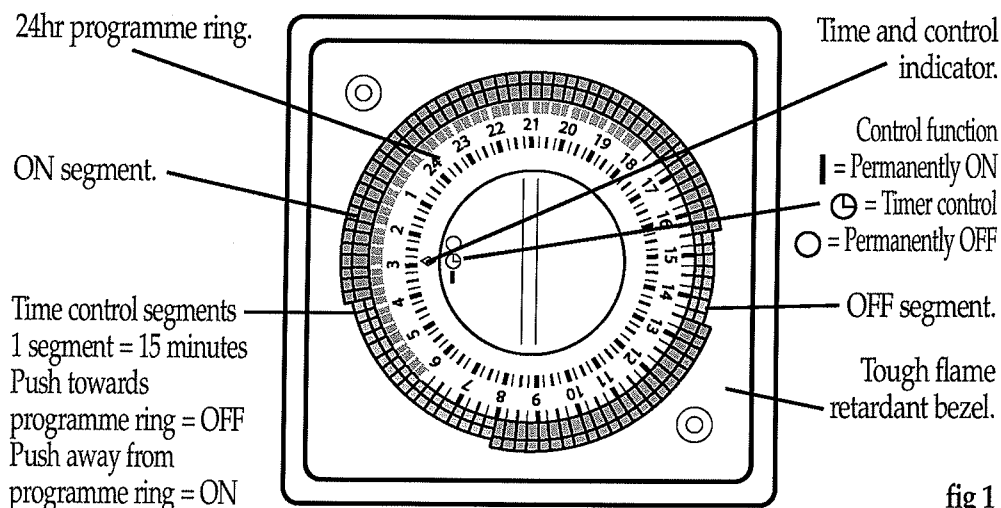

fig 1
- 2 Push all the segments in towards the centre of the timeswitch for the complete duration of an OFF period and leave them all in the outer position for an ON period (see fig 1). The minimum switching interval is 15 minutes and this can be increased in 15 minute steps.